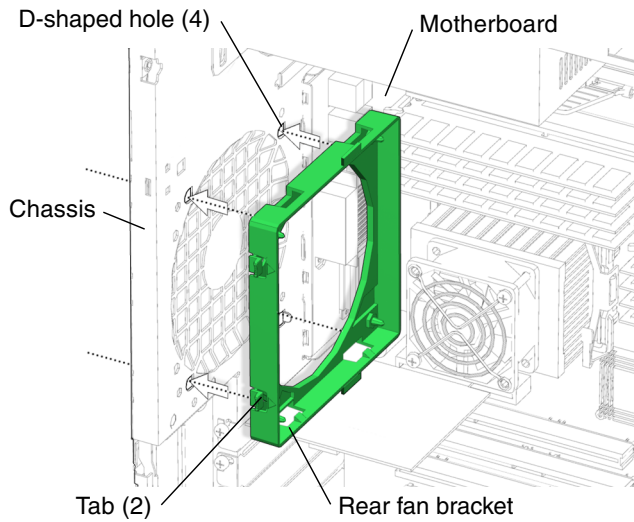

FIGURE 13-20 Installing the Rear Fan Bracket
4. **If necessary, install the rear fan bracket (FIGURE 13-20).**